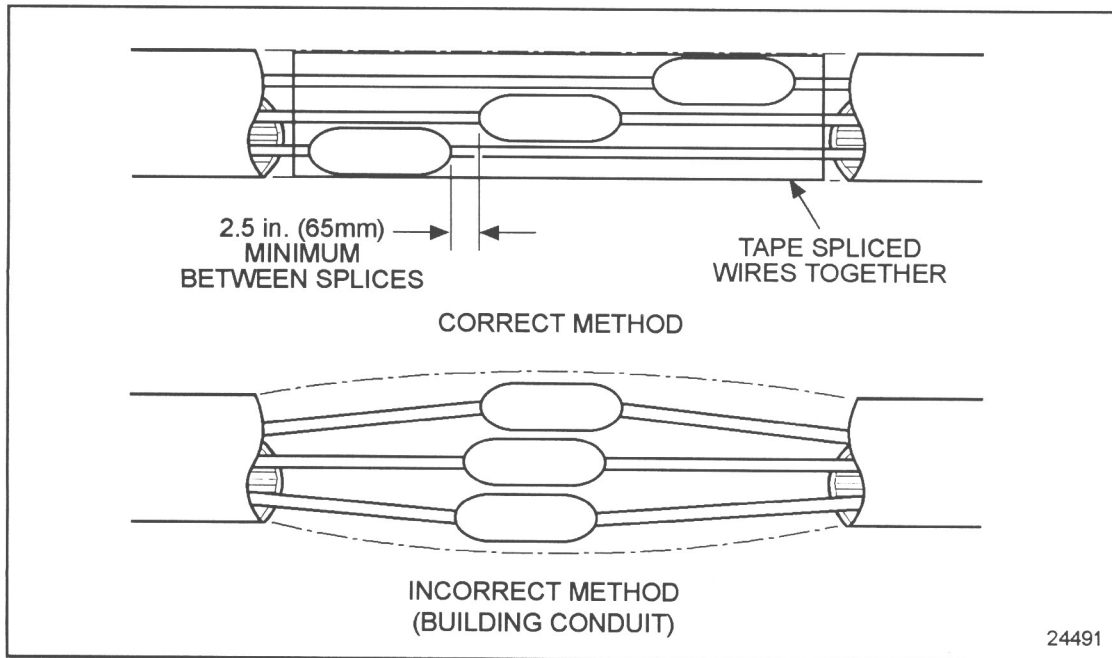

Figure 8-20 Multiple Splices
1. Stagger the position of each splice as illustrated. See Figure 8-20.